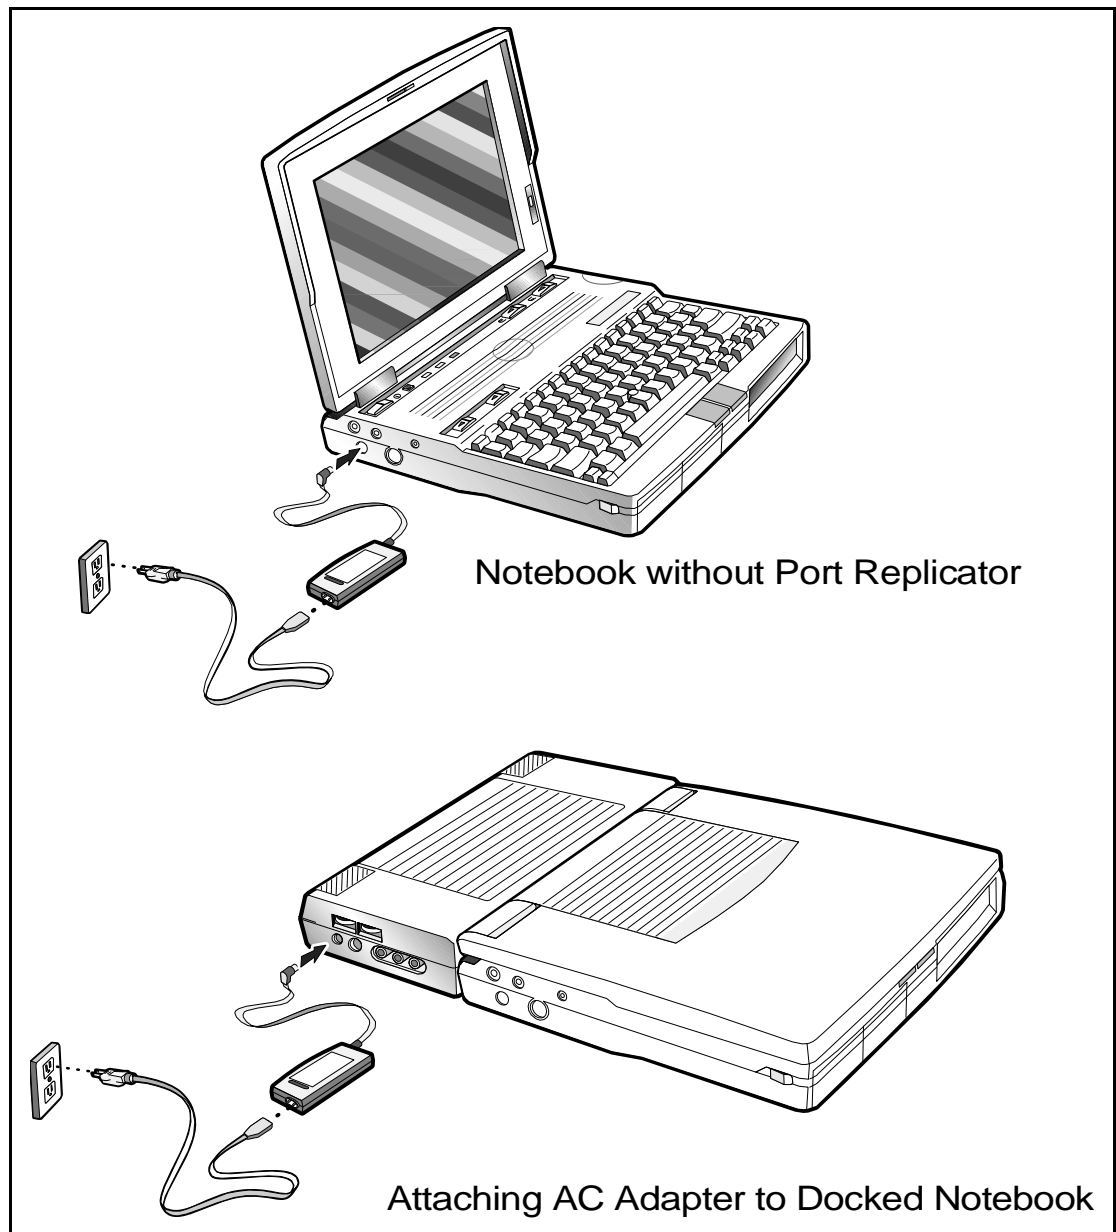

Figure 2-17 Installing the AC Adapter
1. Remove the AC adapter from the packaging. Connect the round coaxial connector supplied with the notebook to the **DC IN** power receptacle on the left rear of the notebook as shown in Figure 2-17.